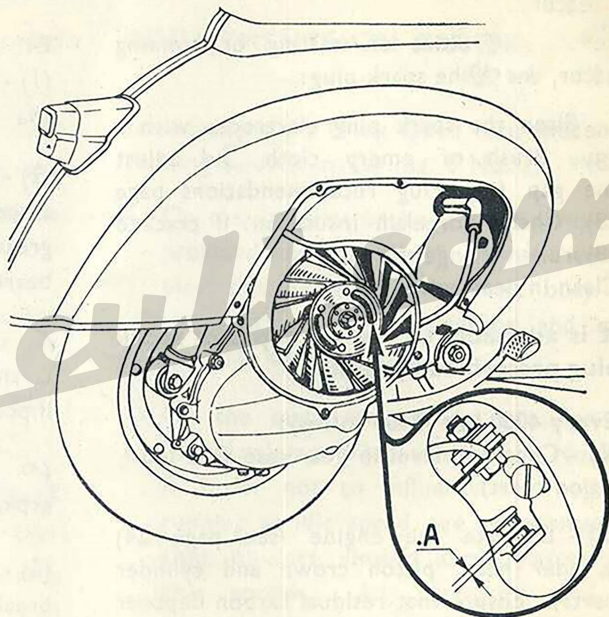

Fig. 17 - Setting contact breaker points.
(5) - Clean, and if necessary, set the contact breaker points (fig. 17).